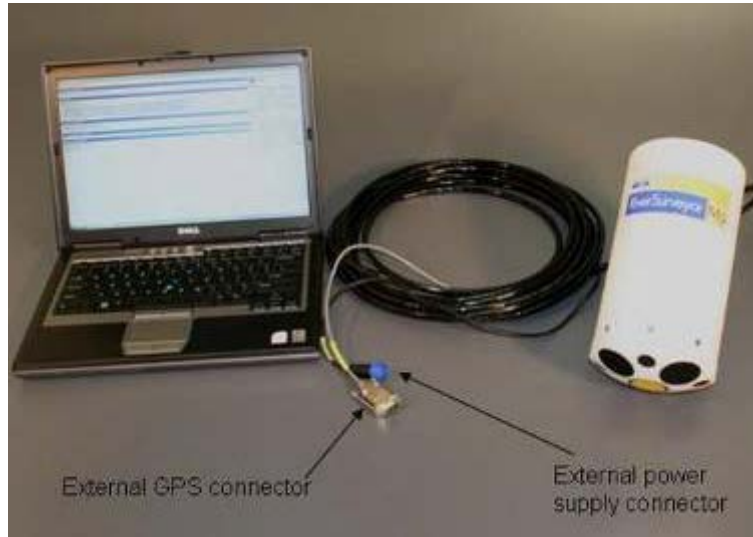

Figure 9. Hardware Required for the Direct Connect Option
5. Figure 9 shows the hardware necessary for this option.